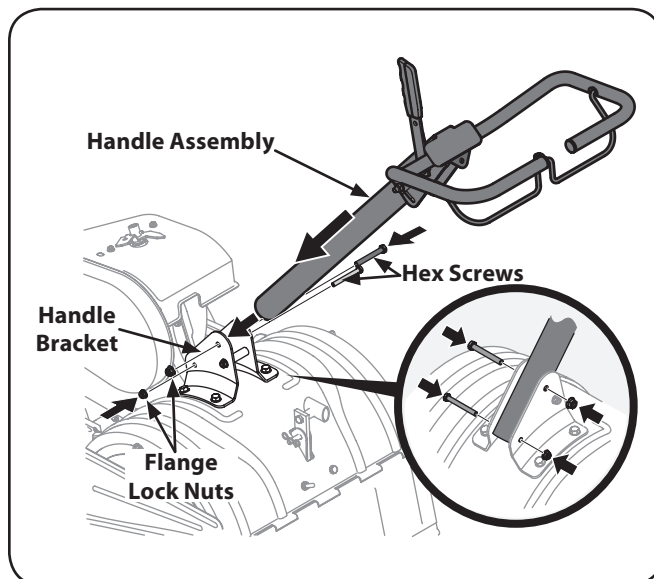

Figure 1-3
2. Place the handle assembly in position between the handle bracket. See Figure 1-3.